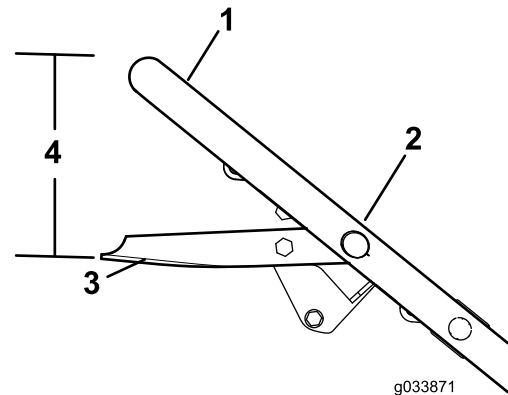

Figure 28
3. Hold the blade-control bar at 19 cm (7-5/8 inches) from the top of the handle as shown in Figure 28.